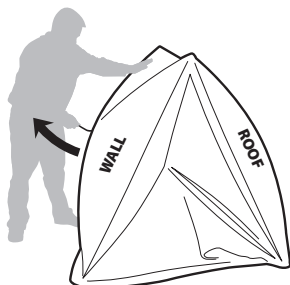

FIGURE 3
3. Grasp the webbing loop sewn onto the eyelet located in the center of one of the walls and pull outward until the wall pops open. [**SEE FIGURE 3**]